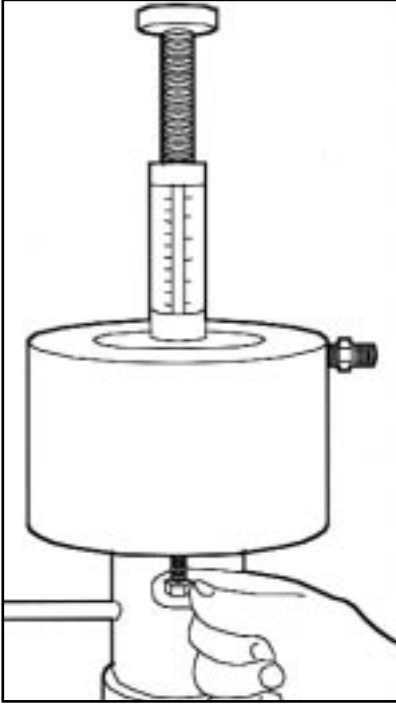

Figure 53
1. For all pumps except the P1500W400, use a 1/4" Allen wrench to remove the motor cylinder set screws that hold the motor cylinder to the oil chamber body and remove the motor cylinder. For the P1500W400 pump, use a 1/8" Allen wrench for this step. (Fig.53)